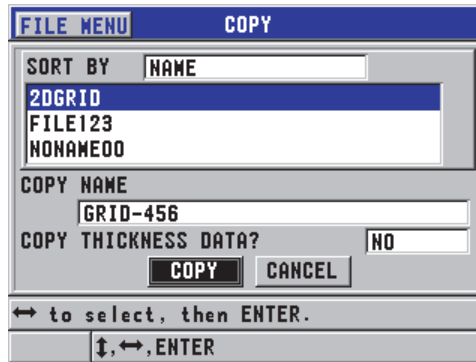

Figure 6-28 Copying a file
2. In the **COPY** screen (see Figure 6-28 on page 108):